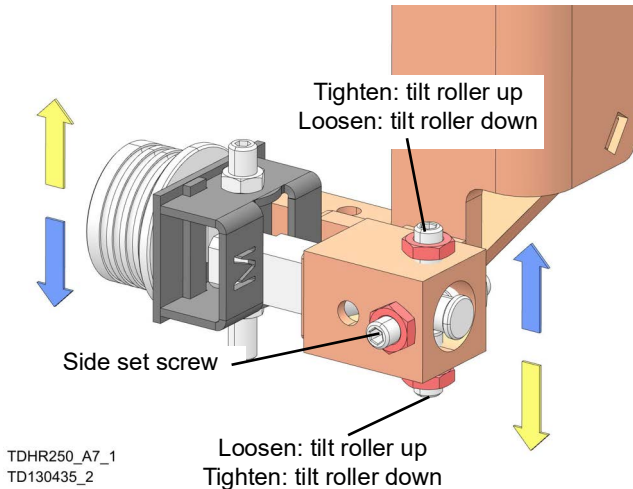

FIG. 5-4
- Loosen one set screw at side of the blade guide assembly. See FIG. 5-4